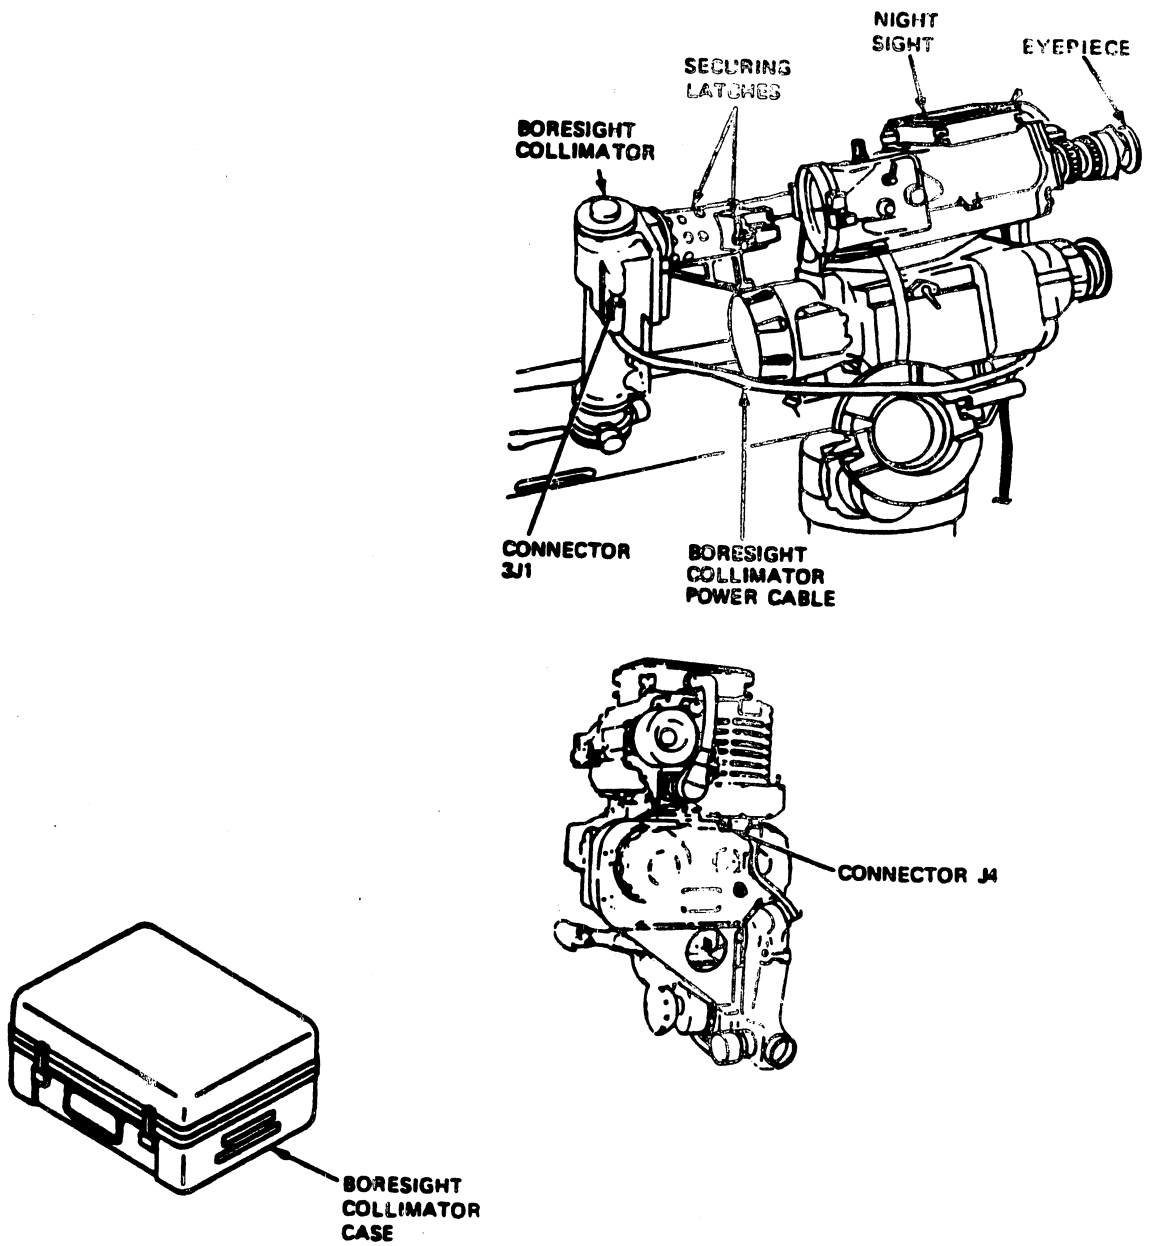

Fig 3-32. Boresight collimator and associated equipment.
- a. Remove boresight collimator power cable from the night sight connector J4 (fig 3-32).
- b. Remove the boresight collimator power cable from the connector 3J1, put dust covers on the cables, and stow in the night sight carrying case (fig 3-32).
- e. Close, latch, and stow the collimator case (fig 3-32).